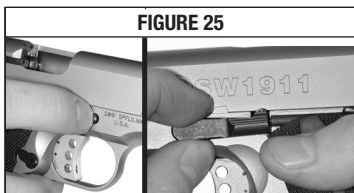

FIGURE 25
- Press inward on the slide stop pin from the right side of the frame and remove the slide stop from the left side (FIGURE 25).